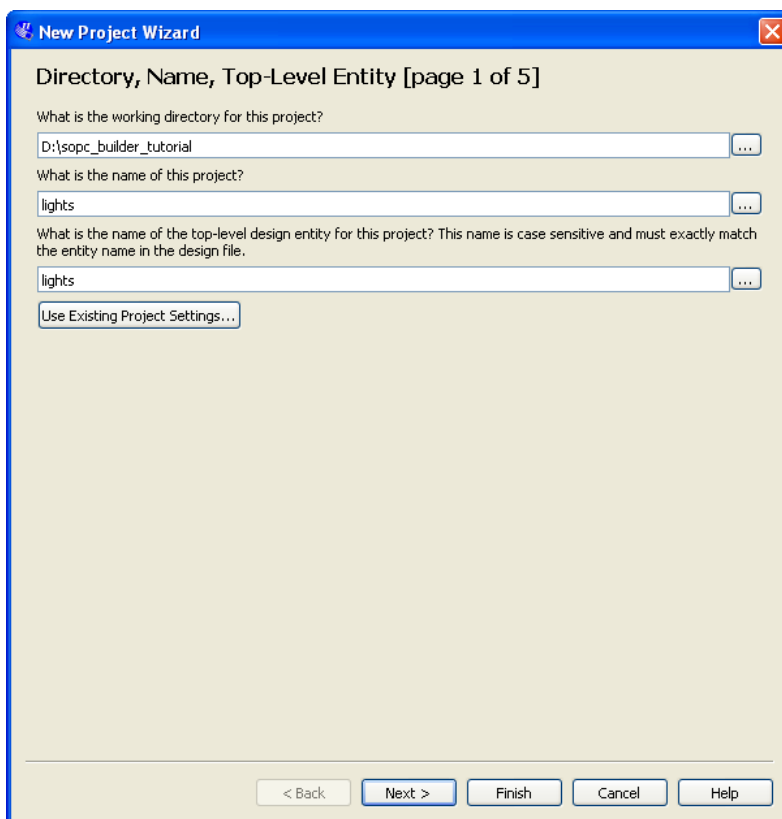

Figure 3. Create a new project.
1. Create a new Quartus II project for your system. As shown in Figure 3, we stored our project in a directory called *sopc_builder_tutorial*, and we assigned the name *lights* to both the project and its top-level design entity. You can choose a different directory or project name, but be aware that the SOPC Builder software
Figure 18 shows a top-level VHDL module that instantiates the Nios II system. This entity is named *lights*, because this is the name we specified in Figure 3 for the top-level design entity in our Quartus II project. Note that the input and output ports of the entity use the pin names for the 50-MHz clock, *CLOCK_50*, pushbutton switches, *KEY*, toggle switches, *SW*, and green LEDs, *LEDG*, that are specified in the DE-series User Manual. On a DE0-Nano board, you have to change the code slightly to use four dip switches, *SW3* – 0, and four LEDs, *LED3* – 0. Type this code into a file called *lights.vhd*. Add this file and all the *.vhd files produced by the SOPC Builder to your Quartus II project. Also, add the necessary pin assignments on the DE-series board to your project. The procedure for making pin assignments is described in the tutorial *Quartus II Introduction Using VHDL Designs*. Note that an easy way of making the pin assignments when we use the same pin names as in the DE-series User Manual is to import the assignments from file. For example, the DE2 pin assignments can be found in the *DE2_pin_assignments.qsf* file, in the directory *tutorials\design_files*, which is included on the CD-ROM that accompanies the DE-series board and can also be found on Altera's DE-series web pages. On a DE2-70 board, you may also need to change operating mode of the nCEO pin to regular I/O. This can be done by going to **Assignments > Device > Device and Pin Options > Dual-Purpose Pins** and double-clicking on the Value field of the nCEO pin and